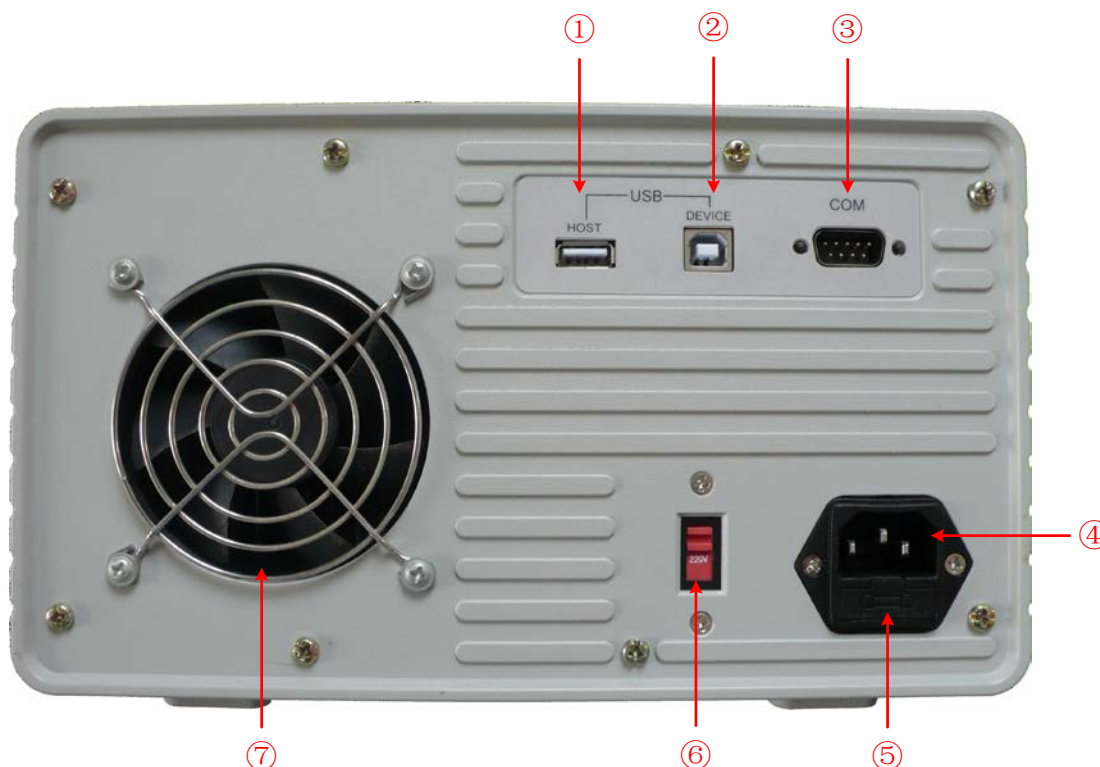

Figure 4-2 Rear panel overview
ODP3031 adopt 110V/220V AC power source. Users should regulate the voltage scale of the **Power Switch** according to the standards in their own country (see *Figure 4-2*) at the rear panel and use an appropriate fuse.
- (1) Turn off the power button at the front panel and remove the power cord.
- (2) Check if the fuse installed before leaving factory (250 V, F3 A) can match with the selected voltage scale; if not, pry the cover open using a straight screwdriver (see ⑤ in *Figure 4-2*), change the fuse.
- (3) Regulate the **Power Switch** to the right voltage scale.